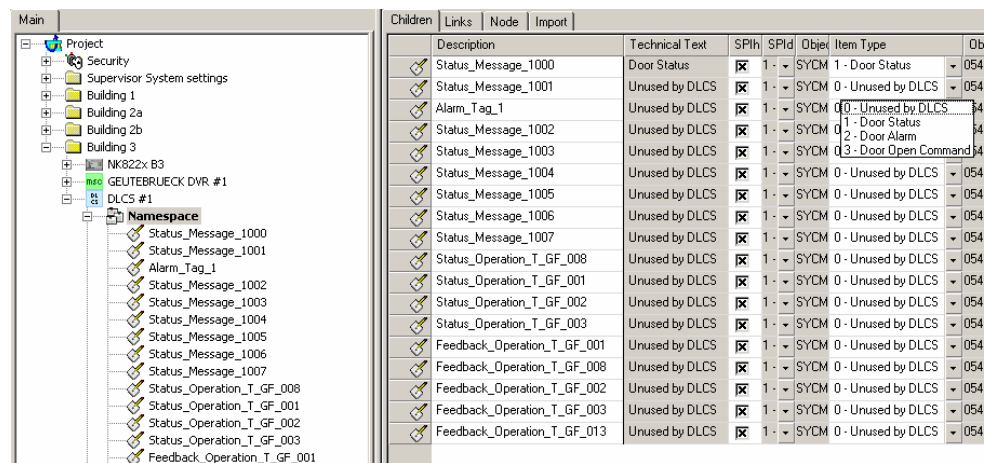

Fig 8 Setting the item types on the Namespace Children tab
**Note:** If you are familiar with the Composer tool, select the Children tab of the 'Namespace' node. At this point, you can quickly set the item types in the spreadsheet page (see Fig 8).